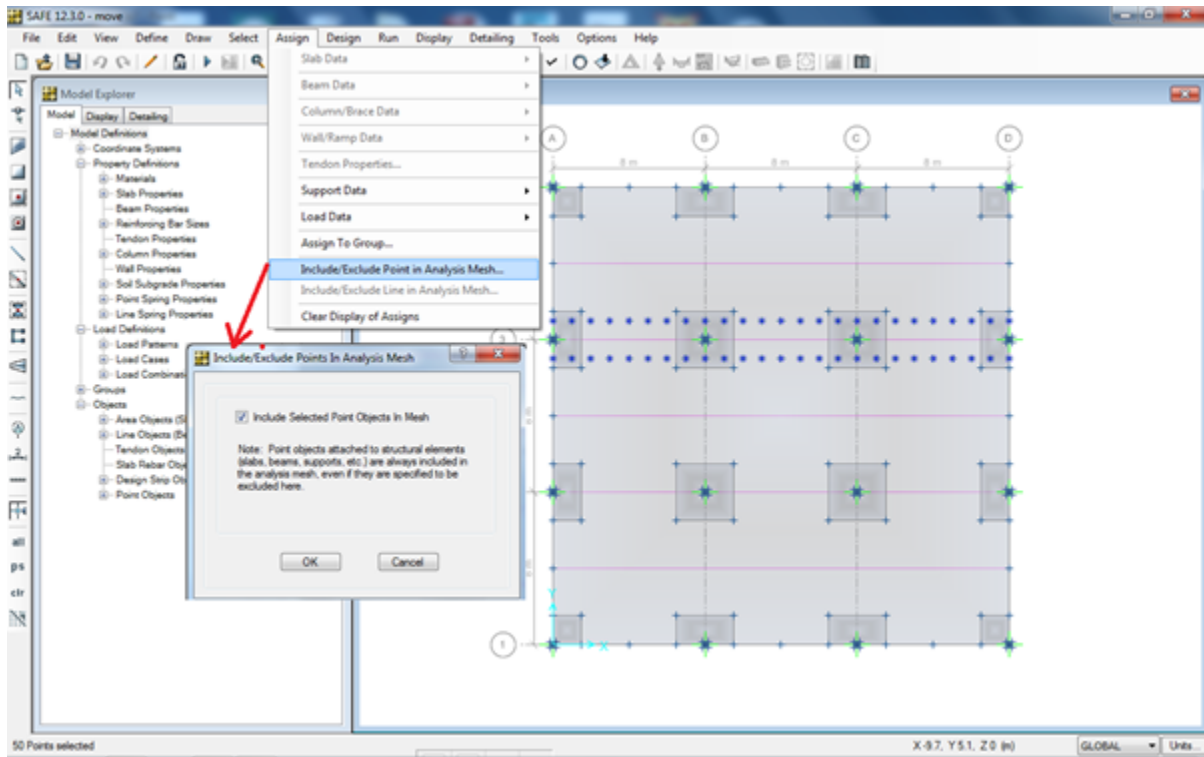

Figure 4 - Mesh the slab at defined points
- Please note that the slab should be **meshed** at the specified joint locations to provide for analysis. To mesh these load-pattern points, select each joint, then select Assign > Include/Exclude Point in Analysis Mesh > Include Selected Point Objects in Mesh > OK, as shown in Figure 4: